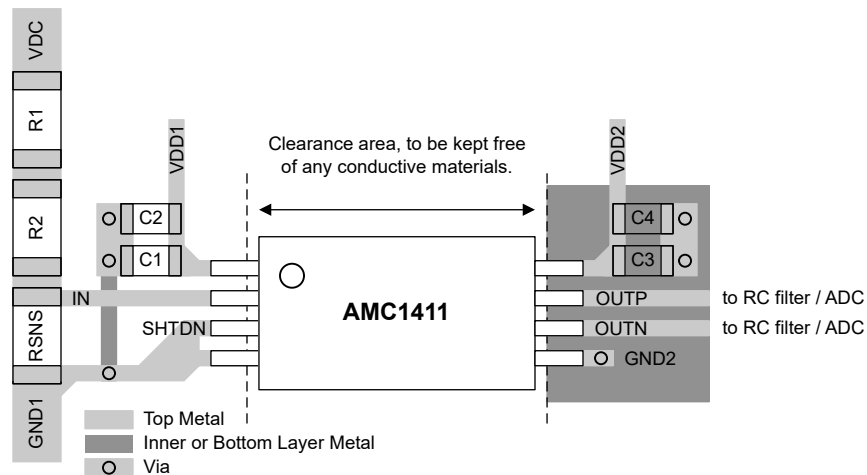

Figure 10-1. Recommended Layout of the AMC1411
Figure 10-1 shows a layout recommendation with the critical placement of the decoupling capacitors (as close as possible to the AMC1411 supply pins) and placement of the other components required by the device. For best performance, place the sense resistor close to the device input pin (IN).